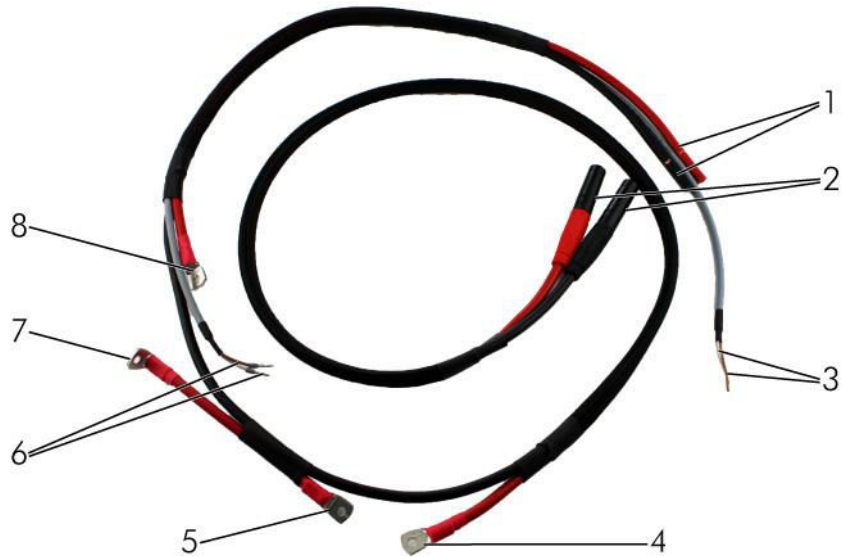

Fig. 4-4 Pre-assembled power cable
2. Insert the exposed end of the black power cable (1, Fig. 4-4) into the negative power output (-).
3. Insert the exposed end of red power cable (1, Fig. 4-4) into the positive power output (+).
5. Insert the black lab plug (2, Fig. 4-4) into the negative power input (-) of the load.
1. Connect the positive power cable coming from the unit (8, Fig. 4-4) to positive contact 1 (+) of the load relay.
2. Connect the angled side of the positive power cable (7, Fig. 4-4) to negative contact 2 (-) of the load relay.
1. Plug the two wire cable (3, Fig. 4-4) to the fourth and fifth terminal of the solenoid valve plug connector (**Fig. 4-6**).
3. Insert the white lead of the two-wire cable (6, Fig. 4-4) in Contact 8.
1. Loosen screw of negative contact (2) on the reverse current diode.
2. Place cable lug of the positive power cable (5, Fig. 4-4) coming from the load relay on the contact.
4. Loosen screw of positive contact (1) on the reverse current diode.
5. Place cable lug of the positive power cable (4, Fig. 4-4) to the load on the contact.